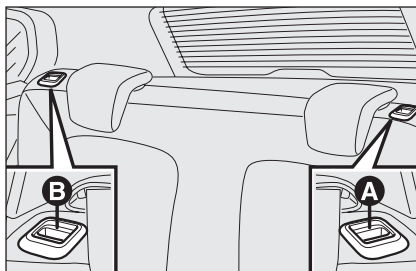

fig. 79
- lift handles **A** and **B**-fig. 79 to release the backrests and guide them onto the cushion.